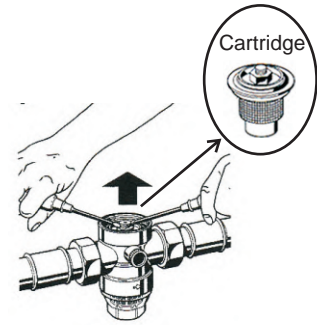

Fig. 7
6. Lever out cartridge (fig 7); use plier if needed.